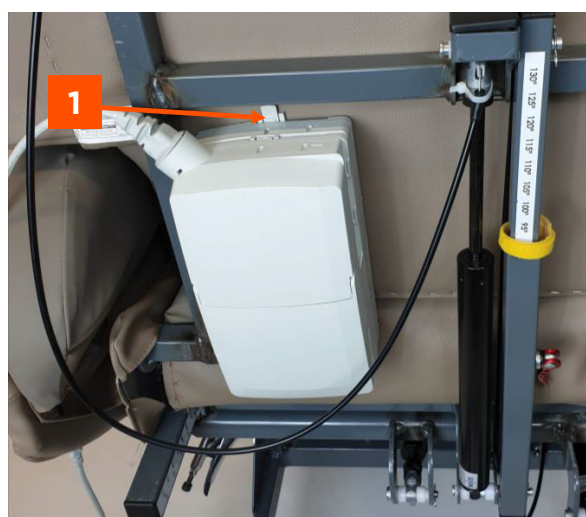

FIGURE 9
4. Remove control box if fitted. Press the tab (Fig 9, Item 1) and slide the control box down to release it from the mounting. Lay it aside carefully.
11. Refit the control box if required. Place the control box against the plastic fixing bracket on the Postural Backrest, locate the control box in the sliding slot, then move control box upwards. Ensure the fixing tab (Fig 9, Item 1) has located the control box correctly.